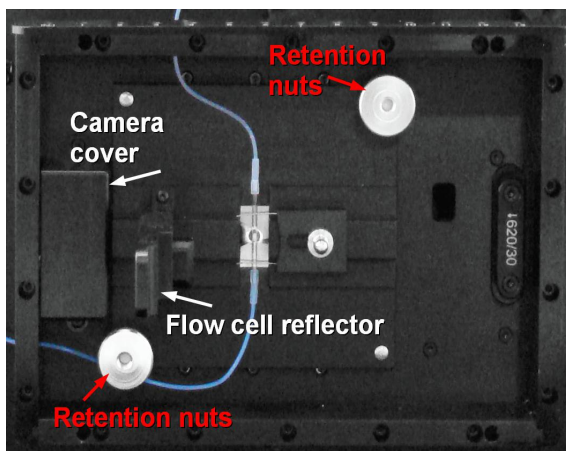

Figure 1a: Name of parts.
- Use the *T10 Screwdriver* to remove the [2] *M3x8 Countersunk Screws* that are holding the *Camera Cover* and then set the *Screws* aside as they will be used again. Open the *Flow Cell Reflector* and slide the *Retention Clip* to the right. Gently move the *Flow Cell* out of the *Grooved Lens* and over the top and to the left of the *Reflector* since there is no need to disconnect the plumbing. Remove the *Optics Slide Retention Nuts* and then gently pull to remove the *Optics Slide* from the Instrument (Figure 1a).
- Use the *Spanner Wrench* (040412) to carefully remove the *Lens Retaining Ring* and the *Achromat Lens* from the hole located on the front left side of the *Optics Slide*. **Important:** Be very careful that the *Spanner Wrench* is fully seated into the *Lens retaining ring* so that the small wires on the *Wrench* do not get bent. Return the *Optics Slide* to the Instrument, replace the *Optics Slide Nuts*, and return the *Flow Cell* to the *Grooved Lens*. Slide the *Retention Clip* to the left to secure the *Flow Cell* (Figures 1a and 1b above). **Note: Apply a small amount of Dielectric Grease** (231362) **to the Grooved Lens before replacing the Flow Cell.**